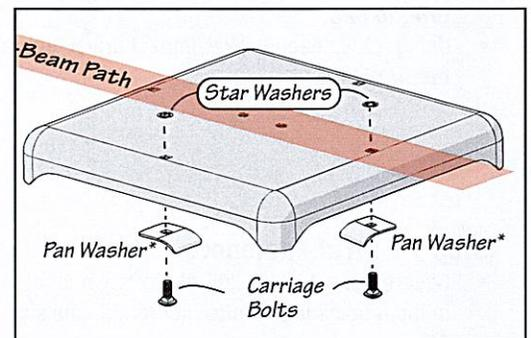

Fig. 3-2
- *Note: The curved side of the pan washer must be positioned away from the curved edge of the ground pad, as illustrated in Figure 3-2.**
- Attach two star washers over the carriage bolts on top of the ground pan, securing both bolts in place as in Fig 3-2.